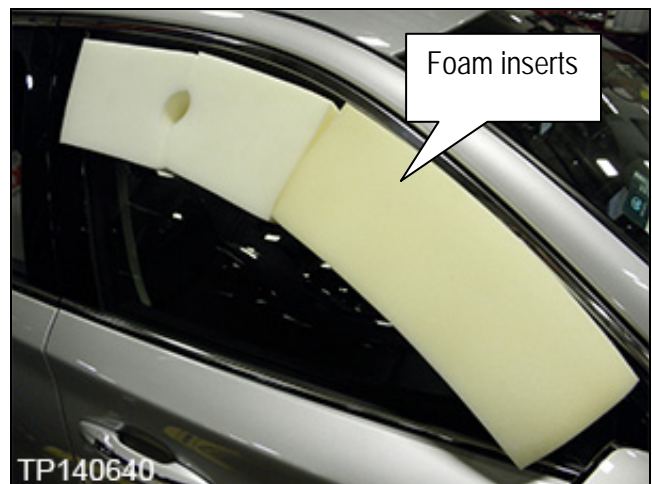

Figure 21
5. Remove the TechMate ozone machine (Rainbowair Activator 1000 - II Mobile Station, part number #188-5401-II MS), foam inserts (Figure 21) and ducting hose from its storage case.
10. Insert the foam from kit (Shown in Figure 21) into chosen window, and then close window until snug fit is achieved.